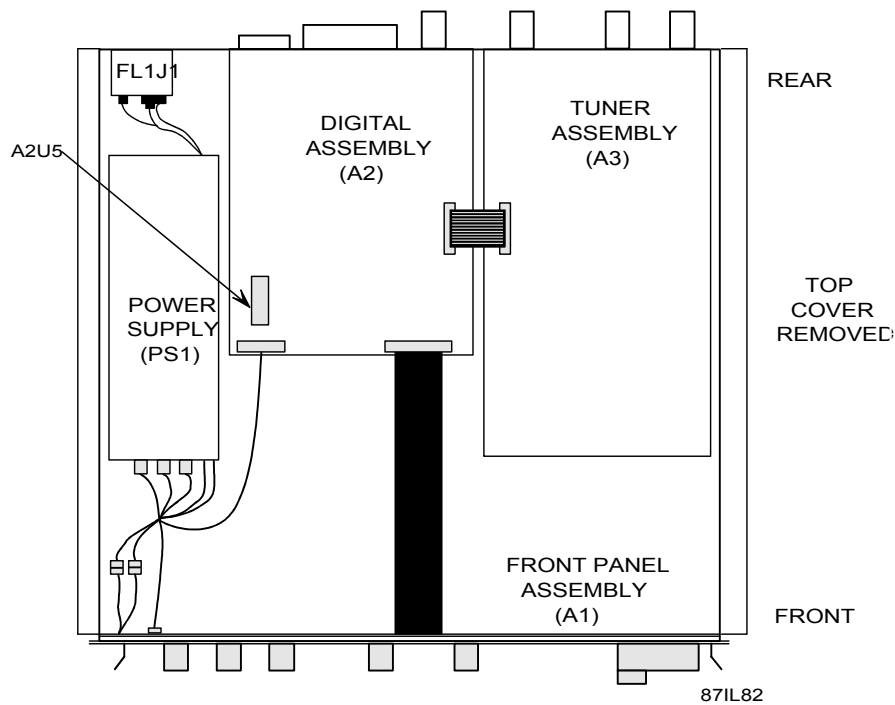

Figure 7-23. RAM/ BATTERY (U5) Removal and Replacement Procedures
<p>This unit contains a RAM Integrated Circuit (A2U5) that includes an on-board lithium source used as back up power for memory retention. Extreme care should be used in storage, handling, and disposal of parts having lithium content. Improper handling may present explosion hazard. If the Digital Assembly is to be disposed, remove the RAM IC. If replacement of the IC is required, carefully insert a blunt, nonmetallic, tool between the bottom face of the IC and the related socket. Pry the IC up at a slight angle and remove with fingers.</p> <ul style="list-style-type: none">• Wear eye protection when handling component with lithium content.• Do not puncture, compact, incinerate, short circuit, or expose the lithium energy source to temperatures above 176°F (80°C).• Do not store ICs with lithium content loose in bins. Store in original containers.• Dispose of ICs with lithium content properly. Discharged cells should be handled with care, as they retain significant energy. They should be electrically isolated and packaged for disposal. Dispose in accordance with local regulations for hazardous material disposal. DO NOT INCINERATE OR COMPACT.• Refer to Figure 7-23 for location of RAM IC (A2U5) on the Digital Assembly (A2)
- *Refer to Figure 7-23 for location of RAM IC (A2U5) on the Digital Assembly (A2).*
Refer to **Figure 7-23** for the approximate location of U5 on the Digital Control PC Assembly. If your receiver contains a Digital Expansion Assembly (Options) Board A2A1, the Digital Expansion Assembly (Options) A2A1 must be removed for access to the A2U5 component.